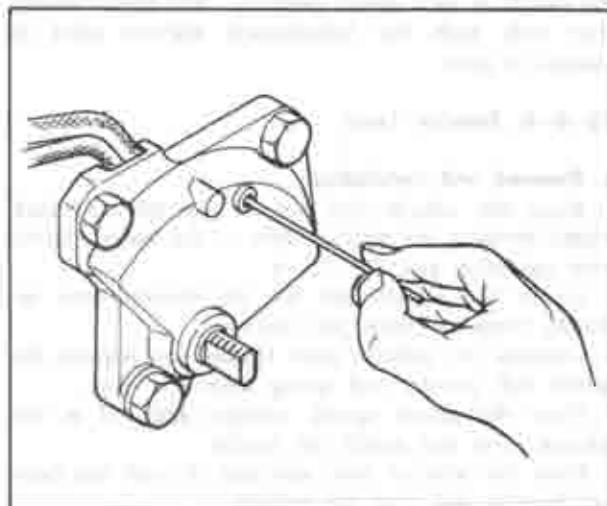

Fig. 7B-7 Inhibitor switch adjustment
4. Rotate the switch and insert an 1.5 mm (0.059 in) diameter alignment pin through the alignment pin hole and into the hole of the internal rotor (Fig. 7B-7).